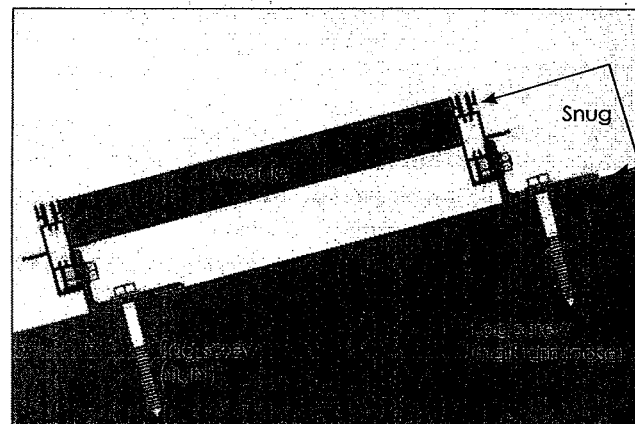

Figure 12. Position and secure top rail.
**With L-feet only** (Fig. 12): Install and align the second rail in the same manner and orientation as the first rail. After rail alignment, securely tighten the rail mounting bolts to between 30 and 35 foot-pounds.
Lay one module in place at one end of the rails, and snug the upper rail (Fig. 12) toward the lower rail, leaving no gap between the ends of the modules and either rail. (If pan-head screw heads represent the true end of the modules, be sure the screw heads touch the rails on both ends.) Securely tighten the lag screw on that end. Slide the module down the rails, snugging the rails and tightening the remaining lag screws as you go.